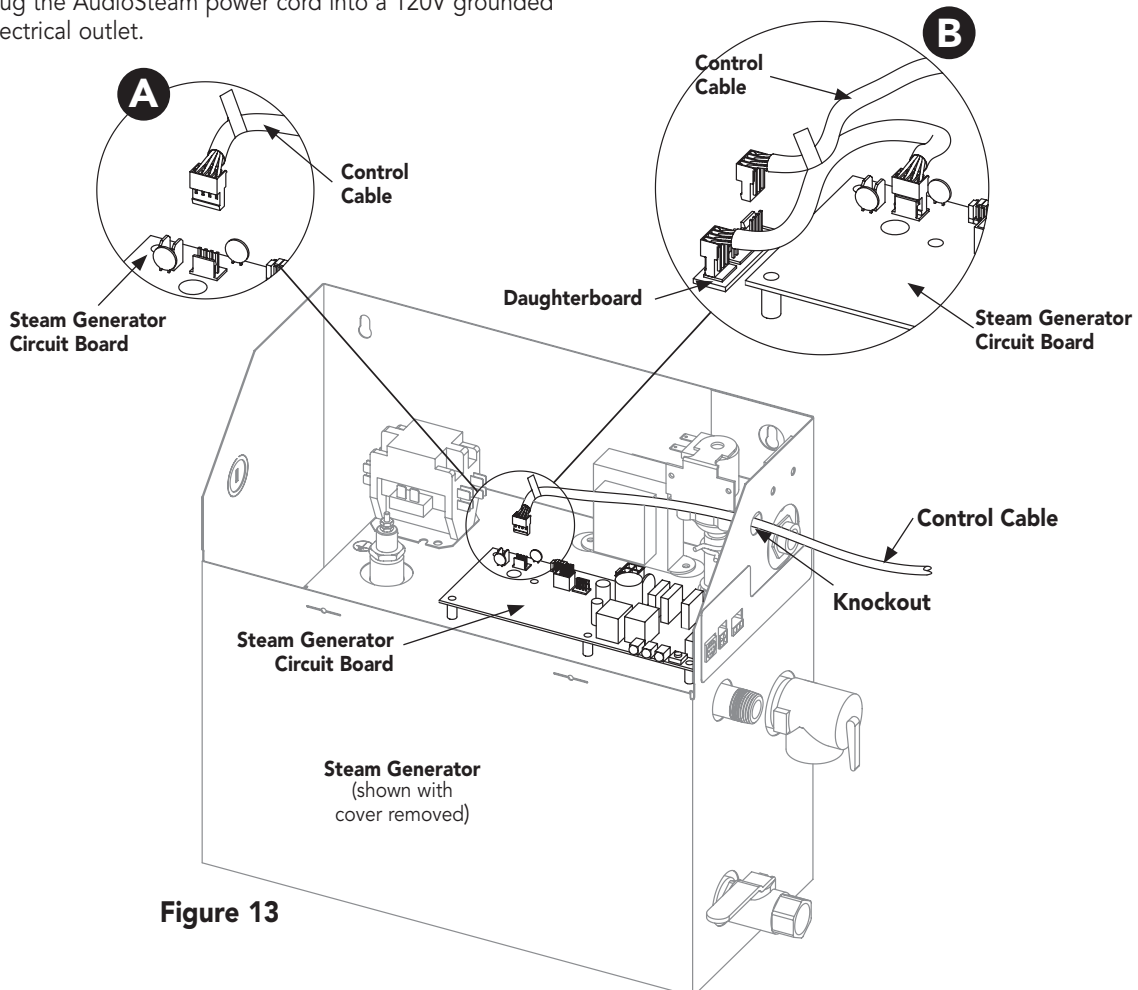

Figure 13
3. Connect the control cable directly to the steam generator's circuit board (**A** in **Figure 13**), **OR** if an additional accessory is installed in the steam generator, connect the control cable to the supplied daughterboard (**B** in **Figure 13**).